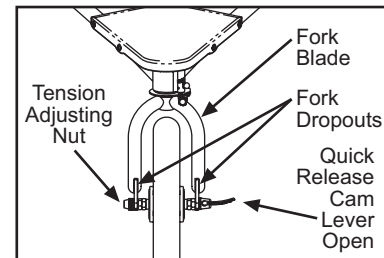

Fig. 8 Front fork dropouts shown with wheel in position. Adjust nut snug with Quick Release in OPEN position.
- Insert the wheel between the fork blades so that the axle seats firmly at the top of the slots that are at the tips of the fork blades — the fork dropouts. The quick release cam lever should be on the left side of the stroller (Fig. 8 & 9).
- Holding the quick release cam lever in the OPEN position with your right hand as shown in Fig. 8, tighten the tension adjusting nut with your left hand until it is finger tight against the fork dropout.